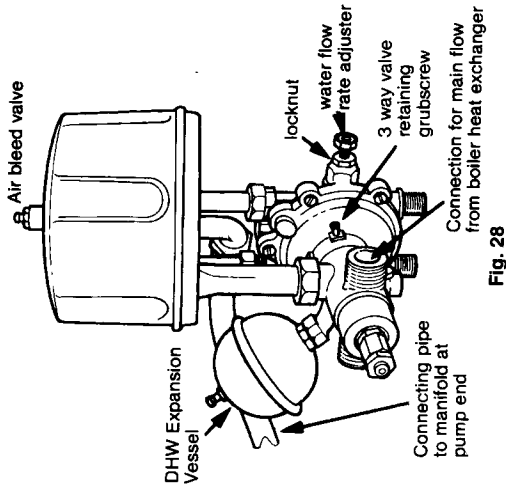

Fig. 28
- Refer to figs 28, 29 and 30
- 8.15.8 Disconnect 4 union nuts (fig 28).
- Refer to figs 28 & 29
- Refer to figs 28 & 30
Refer to fig. 28